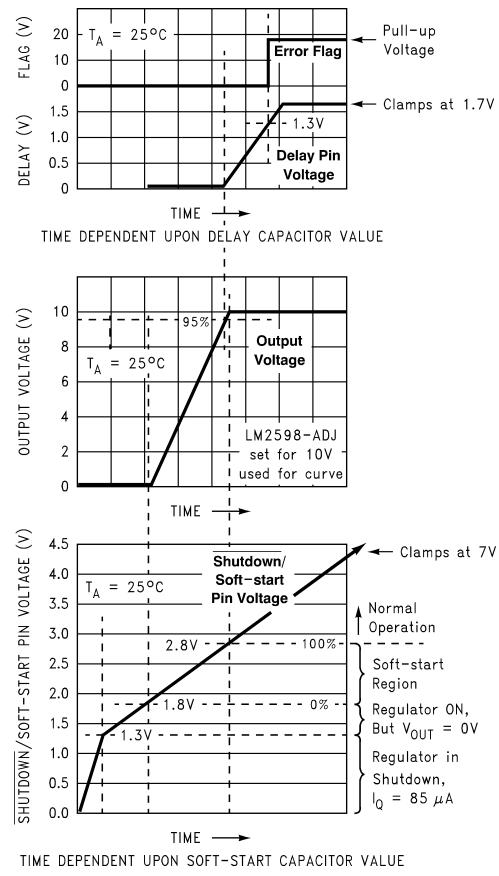
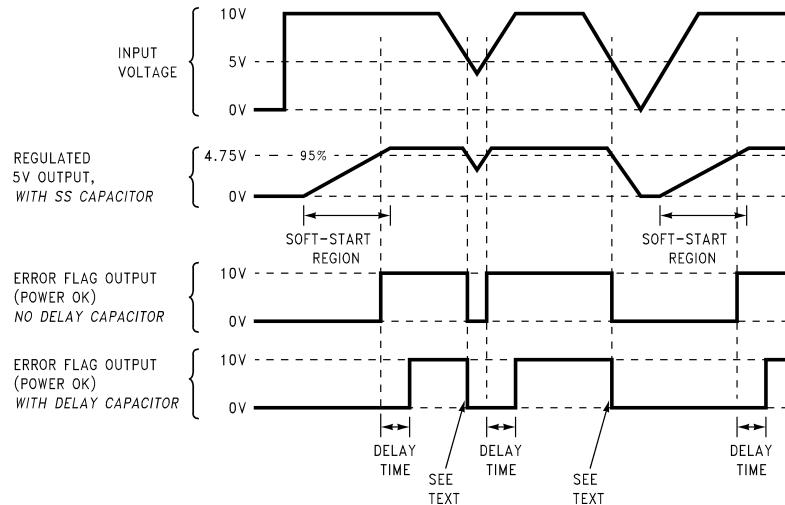

Figure 28. Soft-start, Delay, Error, Output
Figure 29. Timing Diagram for 5-V Output
A capacitor on this pin provides the regulator with a Soft-start feature (slow start-up). When the DC input voltage is first applied to the regulator, or when the Shutdown/Soft-start pin is allowed to go high, a constant current (approximately 5 μ A begins charging this capacitor). As the capacitor voltage rises, the regulator goes through four operating regions (See the bottom curve in Figure 28).
3. Soft-start region: When the \overline{SD}/SS pin voltage is between 1.8 V and 2.8 V at 25°C, the regulator is in a Soft-start condition. The switch (Pin 1) duty cycle initially starts out very low, with narrow pulses and gradually get wider as the capacitor \overline{SD}/SS pin ramps up towards 2.8 V. As the duty cycle increases, the output voltage also increases at a controlled ramp up. See the center curve in Figure 28. The input supply current requirement also starts out at a low level for the narrow pulses and ramp up in a controlled manner. This is a very useful feature in some switcher topologies that require large start-up currents (such as the inverting configuration) which can load down the input power supply.
Note: The lower curve shown in Figure 28 shows the Soft-start region from 0% to 100%. This is not the duty cycle percentage, but the output voltage percentage. Also, the Soft-start voltage range has a negative temperature coefficient associated with it.
Provides delay for the error flag output. See the upper curve in Figure 28, and also refer to timing diagrams in Figure 29. A capacitor on this pin provides a time delay between the time the regulated output voltage (when it is increasing in value) reaches 95% of the nominal output voltage, and the time the error flag output goes high. A 3- μ A constant current from the delay pin charges the delay capacitor resulting in a voltage ramp. When this voltage reaches a threshold of approximately 1.3 V, the open collector error flag output (or power OK) goes high. This signal can be used to indicate that the regulated output has reached the correct voltage and has stabilized.